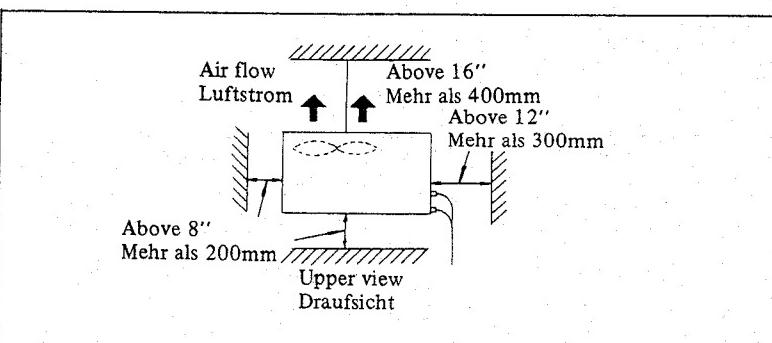

Fig. 2
(1) Keep the space around the unit for the maintenance and avoiding the effects of hindrance for normal ventilation of the unit, as shown in Fig. 2.